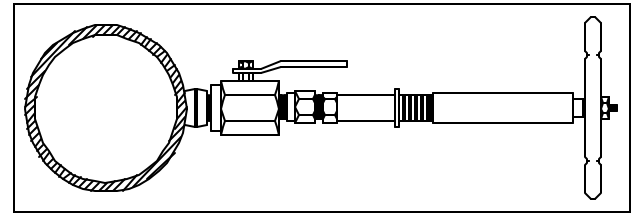

Figure 5. Hot Tap Drilling Machine
- With the access valve in the full open position, install an appropriate Hot-Tap Drilling Machine (Figure 5) and drill a hole in the pipe (hole sizes per the chart below). Follow the instructions given by the Hot-Tap Drilling Machine.